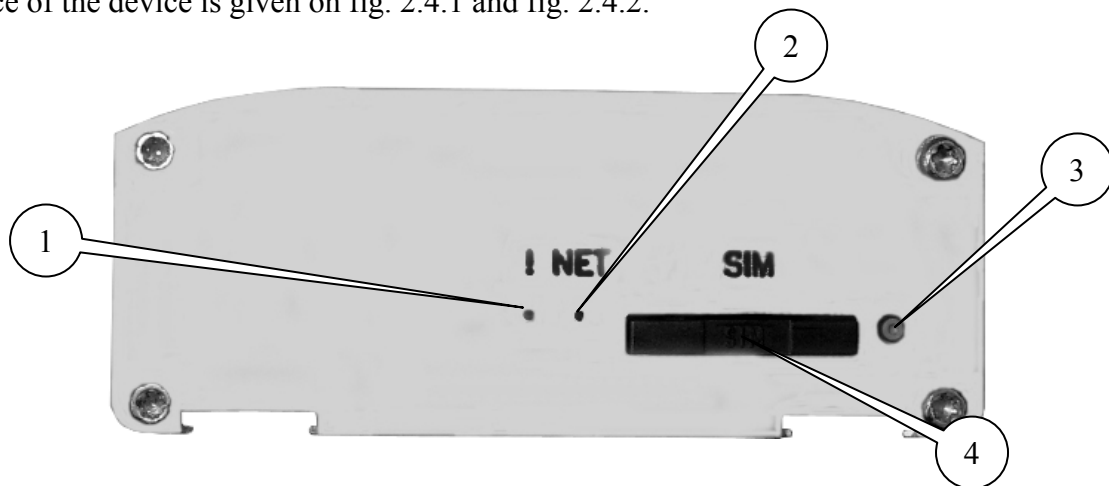

Fig. 2.4.1 Front view
The modem presents a compact device fitted with a robust and light aluminum housing. Appearance of the device is given on fig. 2.4.1 and fig. 2.4.2.
- remove SIM-card tray having pressed on the button for ejecting a SIM-tray (fig. 2.4.1);